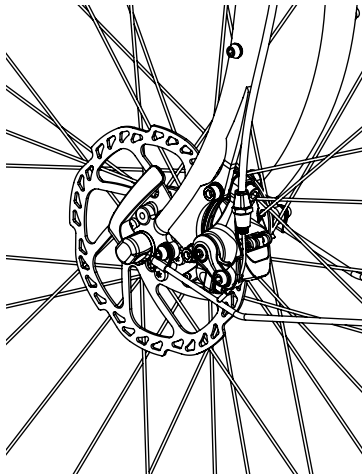
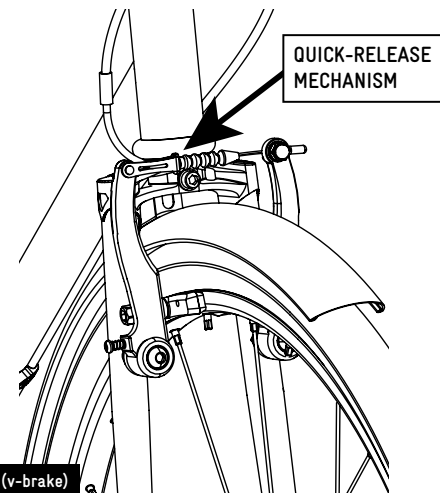

Fig. 12
Fig. 13
3. Some bicycle brakes, such as disc brakes **Fig. 12** and linear-pull brakes **Fig. 13** are extremely powerful. Take extra care in becoming familiar with these brakes and exercise particular care when using them.
Most rim brakes have some form of quick-release mechanism to allow the brake pads to clear the tire when a wheel is removed or reinstalled. When the brake quick release is in the open position, the brakes are in-operative. Ask your dealer to make sure that you understand the way the brake quick release works on your bike (see **Figs. 13, 14, 15 & 16**) and check each time to make sure both brakes work correctly before you get on the bike.